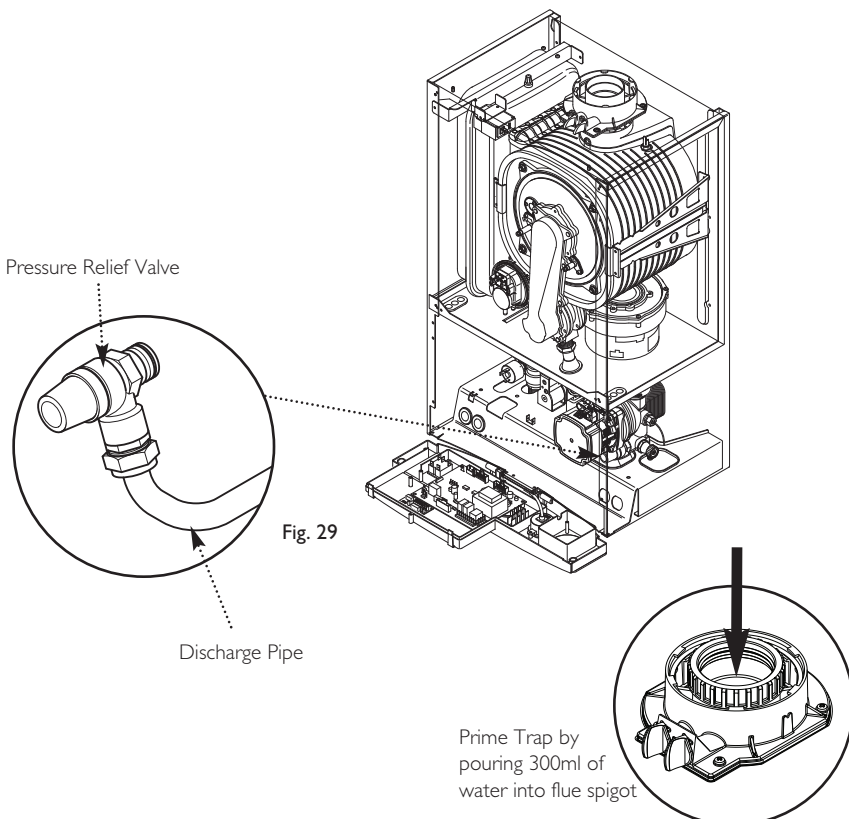

Fig. 29
9.5 Fitting the Safety Pressure Relief Discharge Pipe (Fig. 29)